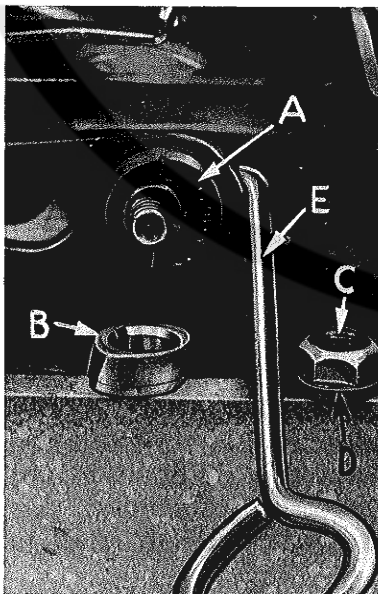

Fig. 15
In assembling the feed eccentric (A, Fig. 15), be sure the hub and oil groove is to the left. Beveled edge of feed eccentric spacer (B) should also be to the left side, so the undercut on the spacer will be over the hub on the feed eccentric. Be careful not to damage shaft or key. Assemble washer (D) and tighten nut (C) securely.